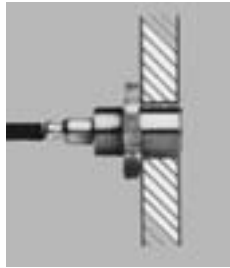

Fig. 4.9: Example of flush assembly of a shielded sensor in a metal support
- ➡ Mount shielded sensors flush in the metal sensor support see Fig. 4.9.